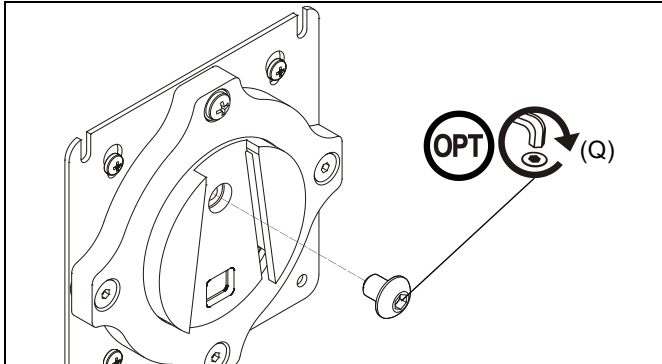

Figure 17
NOTE: (Optional) Rotational adjustment may be locked by installing rotational locking screw (Q) into back of faceplate. (See Figure 17)